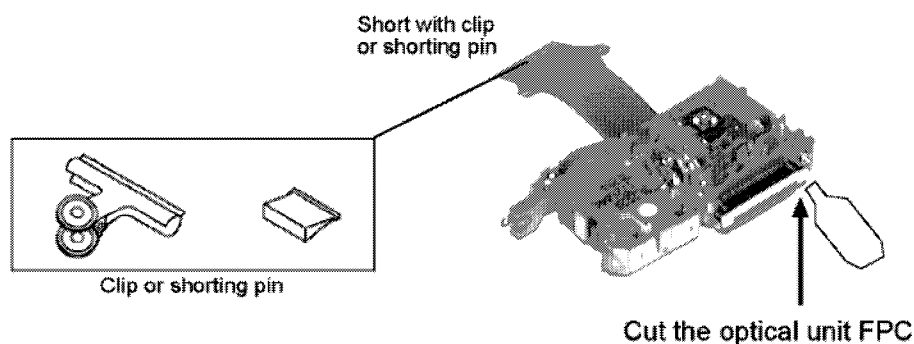
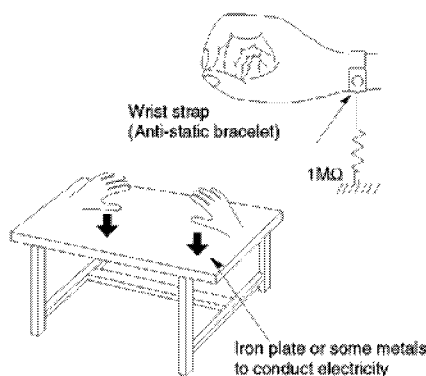

Fig. 8.1
Fig. 8.2
2. Short-circuit the flexible cable of optical pickup remove from the circuit board using a short-circuit pin or clip in order to prevent laser diode from electrostatic destruction (Refer to Fig. 8.1 and Fig. 8.2)
3. Do not handle flexible cables forcibly as this may cause snapping. Handle the parts carefully (Refer to Fig. 8.1)
4. A new optical pickup is equipped with an anti-static flexible cable. After replacing and connecting to the flexible board, cut the anti-static flexible cable. (Refer to Fig. 8.1)
Use the anti-static wrist strap to discharge the static electricity accumulated in your body. (Refer to Fig. 8.2)
Place a conductive material (conductive sheet) or ironboard where optical pickup is placed. (Refer to Fig. 8.2)